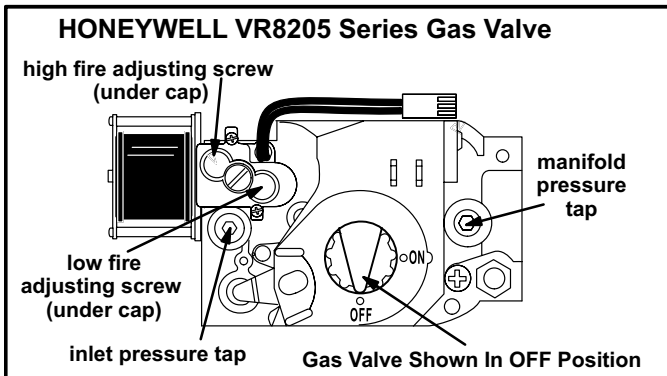

Figure 3
Operating the Gas Valve (Figure 3 and 4)
- 6 - Turn gas valve knob to **OFF**. See figure 3.